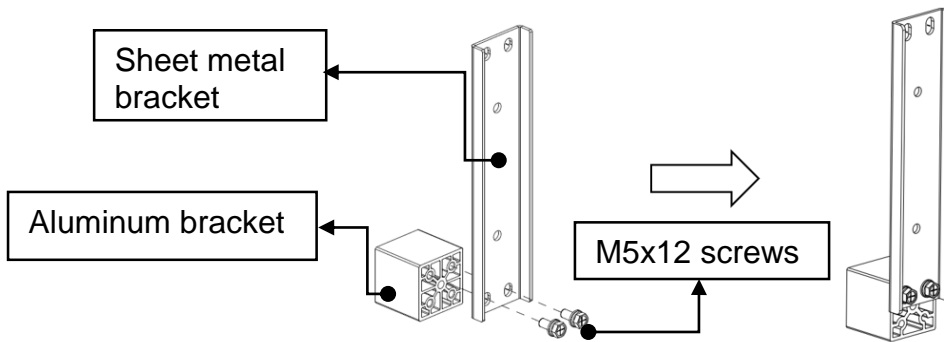

Fig. 3.1 Assemble the simple stand
(1) Take 1 sheet metal bracket and 1 aluminum profile bracket to assemble 1 set of basic brackets with 2 M5\*12 screws in the manner shown in the figure (Fig. 3.1).
(2) Each box requires the assembly of 4 sets of simple brackets (1 group). The number of basic brackets to be assembled for different models is as follows (Table 3.1):